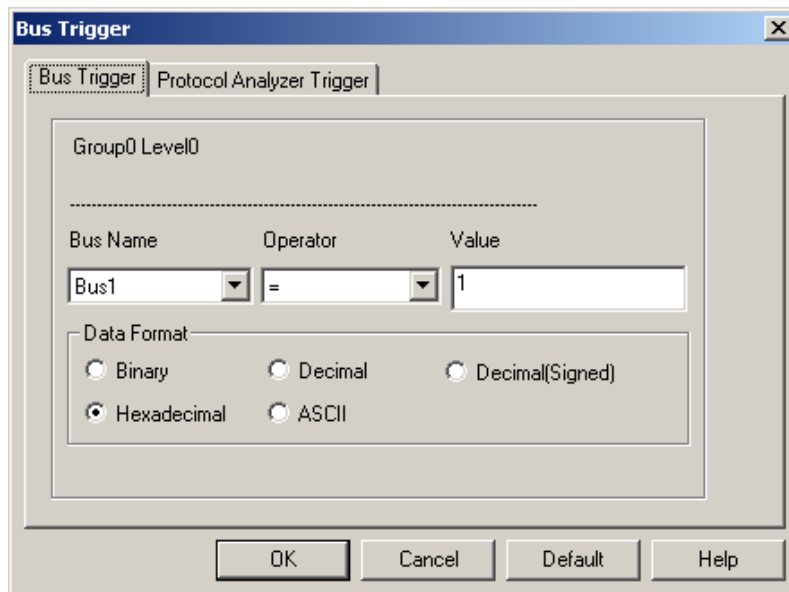

Fig 4-33 – Bus Trigger Setup
1. Highlight the Bus which will be triggered, then click icon or select **Bus Trigger Setup** from the Trigger of the Menu Bar, the dialog box shown in Fig. 4-33 will appear.
2. Set Binary, Decimal, Decimal(Signed), Hexadecimal or ASCII as the Data Format of the Bus to represent the value (see Fig 4-33).